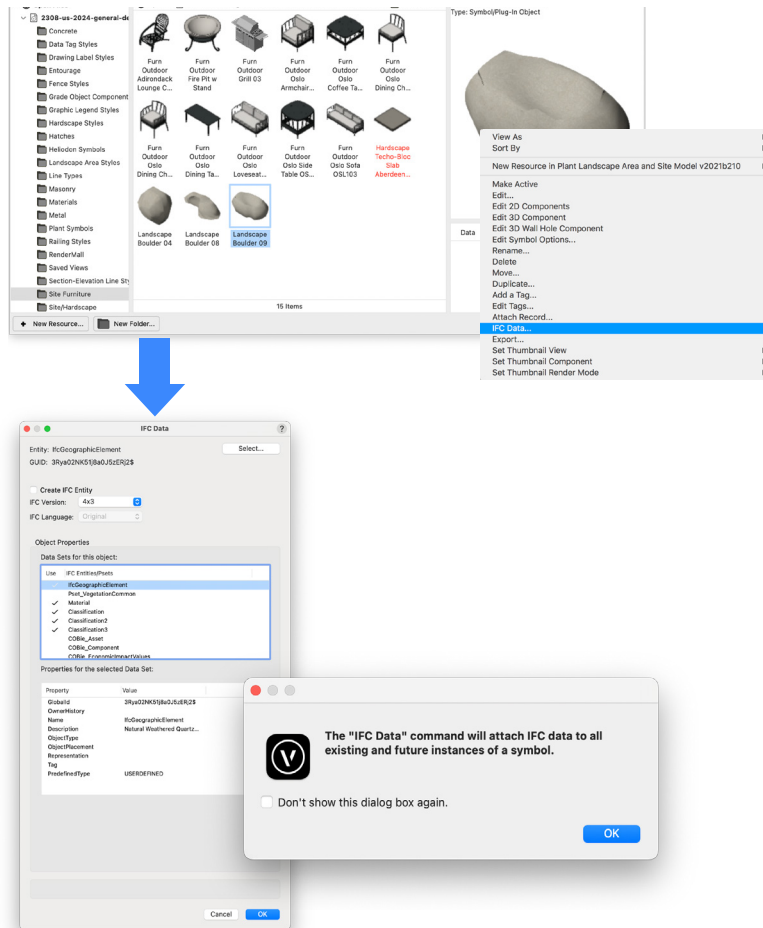

FIGURE 20F: Assigning IFC data to symbols within file
6. When attaching data to a symbol, it may be easiest to do so from within the active file resources in the **Resource Manager**. Simply right clicking on the symbol invokes the context menu where **IFC Data** should be selected. Add data by choosing the IFC tag and ensuring that there’s a check mark before the proper pSet. Once accepting the added data by clicking **OK**, a notice will assure you that the data will be attached to all existing and future instances of that symbol (Fig. 20f). This means that any future placement of the symbol will include the data as well.